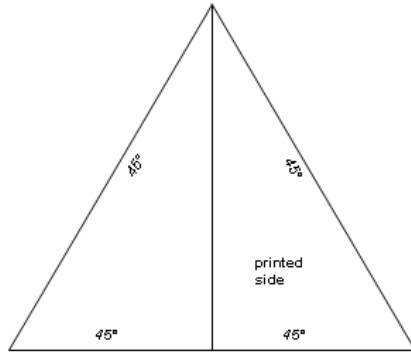

Figure 3: vestibule top
- b. Flip one triangle over and place the triangles together as shown in Figure 3, so you will know the proper orientation of the pieces
- c. Cut the bevels for the vestibule top as shown in Figure 3. One of these triangles is the only piece of the entire structure that will have printing on the outside.